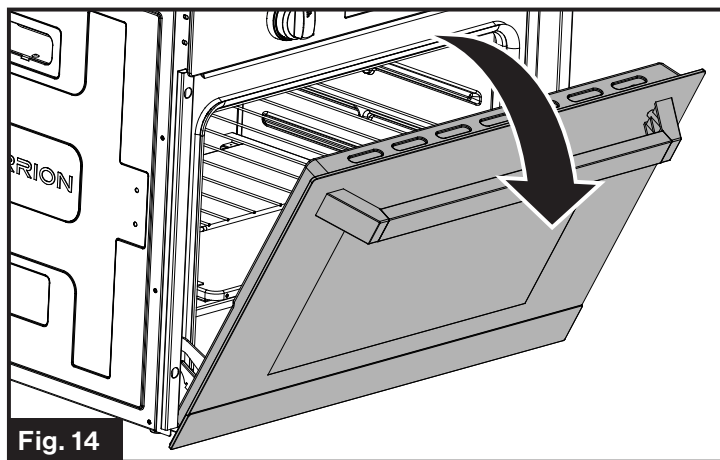

Fig. 14
2. Open the door to its fully open position. (Fig. 14)